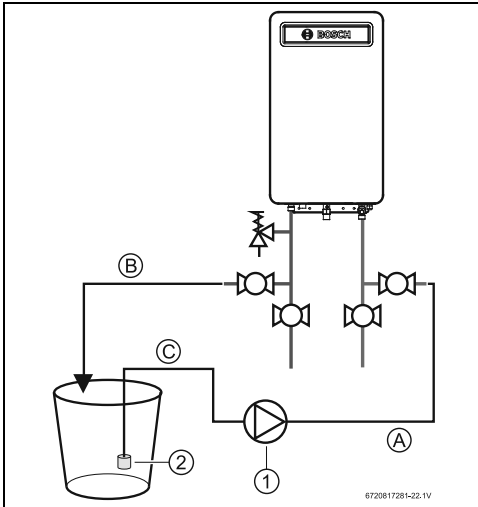

Fig. 41
- ▶ Connect a line (A) from the outlet of the circulating pump (installer supplied) to the inlet water fitting on the water heater (see fig. 41).
- ▶ Using another line (B), connect the water outlet fitting on the water heater. Route the other end of this line into a descaling reservoir.
- ▶ Using a 3rd line (C) from the descaling reservoir, connect to the inlet side of circulating pump. Install a filter on the end of the line in the descaling reservoir.